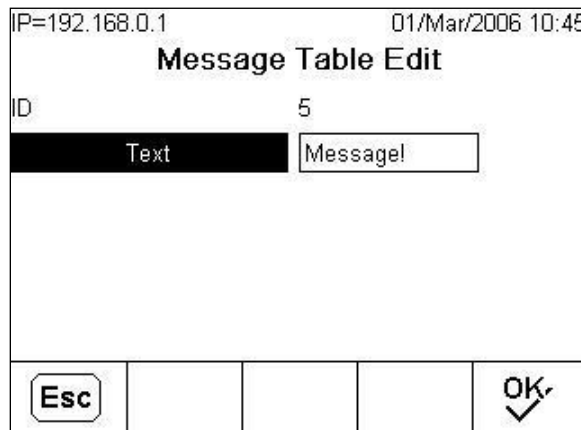

Figure 2-8: Entry Complete—Escape and OK Softkeys Showing
Repeat this process until all alpha characters have been entered (Figure 2-8). The CLEAR key (C) on the keypad can be used to backspace and delete unwanted characters in the entry box.
To save the entry once all alpha characters have been entered, press the ENTER key on the keypad to accept the entry, exit the text field and return to the initial entry screen (Figure 2-8). Then press the OK softkey  to save the changes and exit the screen.